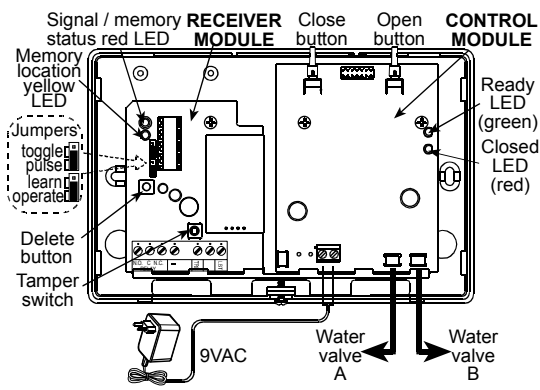

Figure 6 - Power Connection
- A. Set the OPERATE / LEARN jumper (see Fig. 6) to LEARN as shown at the right. The **yellow** LED (see Fig. 6) will start flashing at a constant rate.
The flood detectors identification, in the receiver module memory, is divided into 10 locations, one per each flood detector ID. Memory locations may be selected in ascending order from 1 to 10, by clicking the receiver module tamper switch (see Fig. 6).
The yellow LED (see figure 6) indicates which memory location is selected. The information is conveyed by flashing sequences as demonstrated in the following chart:
- B. Click the receiver tamper switch (see figure 6) the correct number of times (1 - 10) to select the desired memory location. Each click of the tamper switch advances to the next memory location according to the above table. The SIGNAL / MEMORY STATUS LED (red, see Fig. 6) will show the status of the selected location as follows:
- C. If the memory status is free (as shown in the above table) initiate a transmission from the flood detector you wish to enroll in the selected location, by inserting battery into the flood detector or (if it's battery was already inserted) click the flood detector tamper switch (see figure 6).
Red LED Response (Fig. 6)	Significance
- A. Set the OPERATE/LEARN jumper to LEARN position. The internal **yellow** LED (see Fig. 6) will start flashing at a constant rate.
- B. Click the receiver tamper switch (see Fig. 6) the correct number of times (up to 10) to select the desired memory location (see Para. 3.3). The red LED (see Fig. 6) will show the status of the selected location as follows:
- C. Click the DELETE pushbutton (see Fig. 6) once. The red LED (see Fig. 6) will respond as follows:
Connect the AC adaptor output (9VAC), that is supplied with the system, to the "PWR" terminals (see figure 6) - disregard the polarity.
Connect the water valve cable to VALVE A or VALVE B connector (see Fig. 6).
1. Press the CLOSE button (see figure 6).
1. Press the OPEN button (see Fig. 6).
2. Press the OPEN button (see Fig. 6), and verify that the water supply is restored.